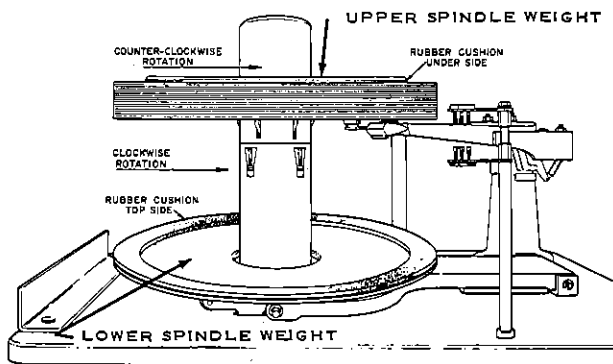
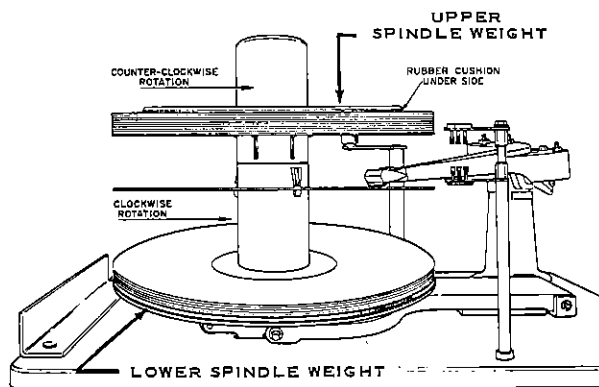

Figure 4. Playing Underside of Record.
Figure 5. Playing Topside of Record.
1. If the mechanism is playing the underside of a record, *Figure 4*, reject this record side by pushing the Reject Button to the left. After the mechanism has started playing the top side of this record, *Figure 5*, push the power switch to the "OFF" position (to the right).